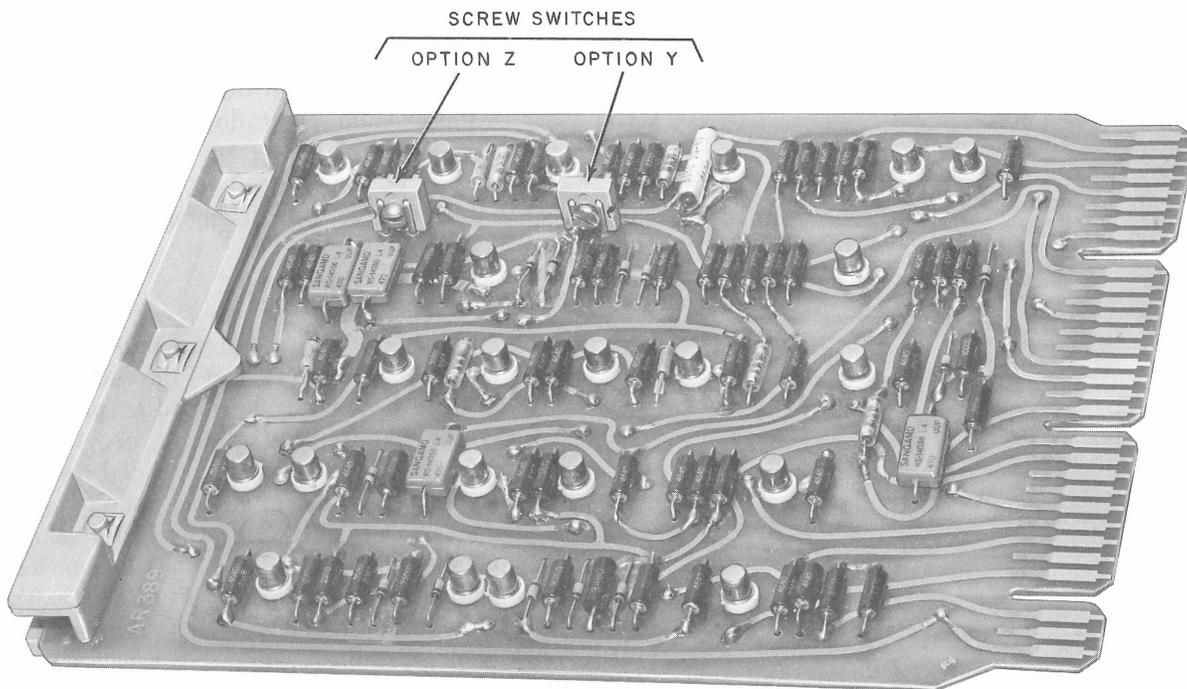

Fig. 8—CP AR389 Removed for Inspection
2.13 Using the 748A tool assembly, remove CP AR389. Verify that the screw switches (Fig. 8) are properly conditioned to provide option Y or Z, if required. Option Y provides an SMI indication to the customer provided terminal for message reception alarm service messages. Option Z provides a CI indication when SMI is on. The options should be specified on the service order and/or worksheet. Replace CP AR389, verify that the package is seated properly, and remove the 748A tool assembly.